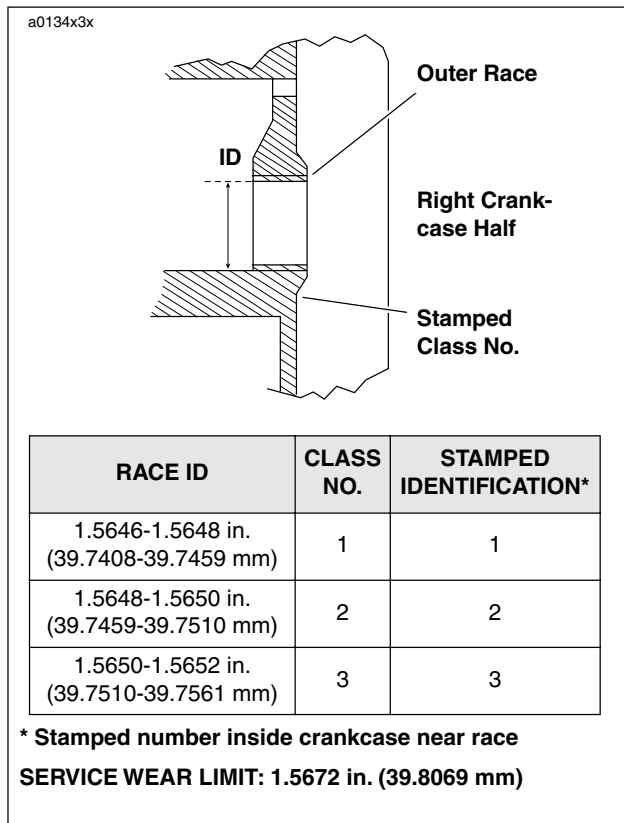

Figure 3-122. Factory Outer Race Sizes
- 15. See Figure 3-122. Outer races are identified at the factory as shown.